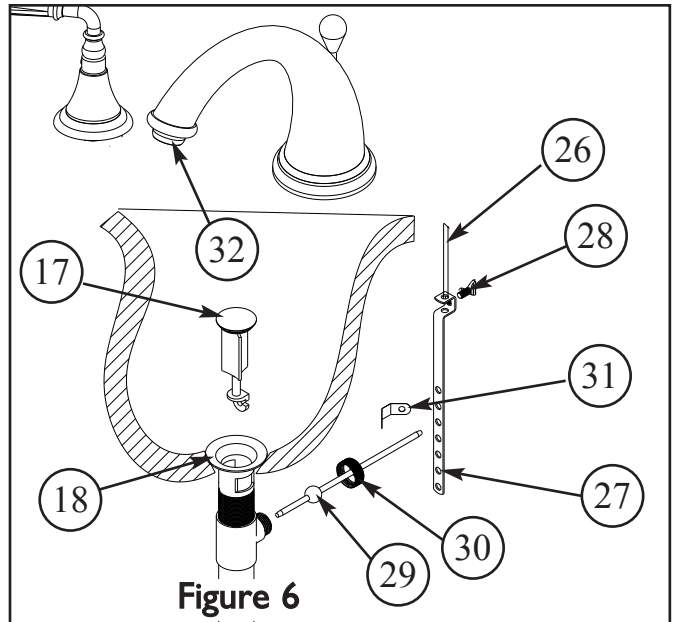

Figure 6
7. Place drain PLUG (17) into FLANGE (18). Insert pop-up ROD (26) through spout and secure to STRAP (27), approximately 1'' from end of ROD (26), with SCREW (28). Insert ball ROD (29) into the drain's rod opening, secure with ball rod NUT (30). Adjust the rise of the plunger and CLIP (31) into place. Adjust ball ROD (29) and pop-up ROD (26) so drain will open and close properly. See Figure 6.
8. Remove AERATOR (32) from spout, turn on water supply, and flush both valves until water is clear. Check for leaks and make any final adjustments required. Re-attach AERATOR (32) to the spout.